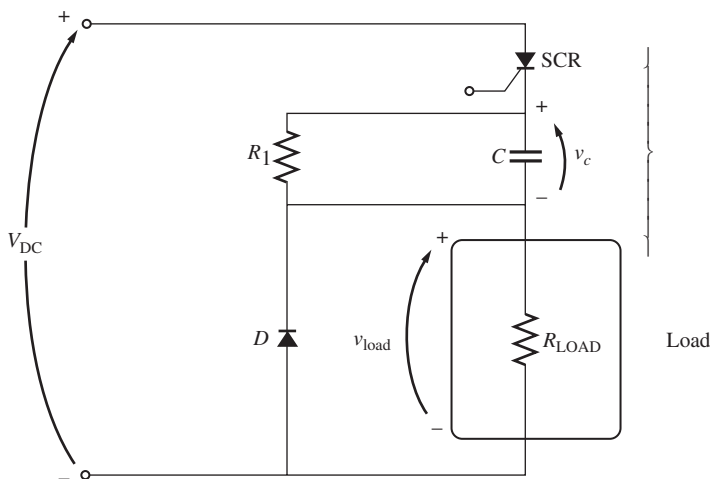

FIGURE P3-5
- 3-10. A series-capacitor forced commutation chopper circuit supplying a purely resistive load is shown in Figure P3-5.